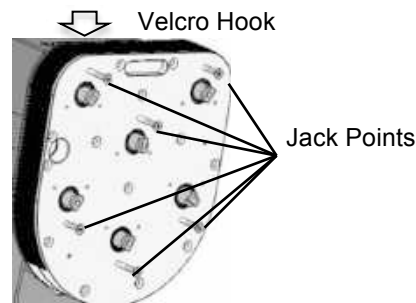

Fig. 8
5. Remove the thirteen M8 flat socket screws from the drive train bottom (Fig 8).
8. Carefully cut the Velcro hook with a snap-blade knife following the seam between the top and bottom plate (Fig 8).